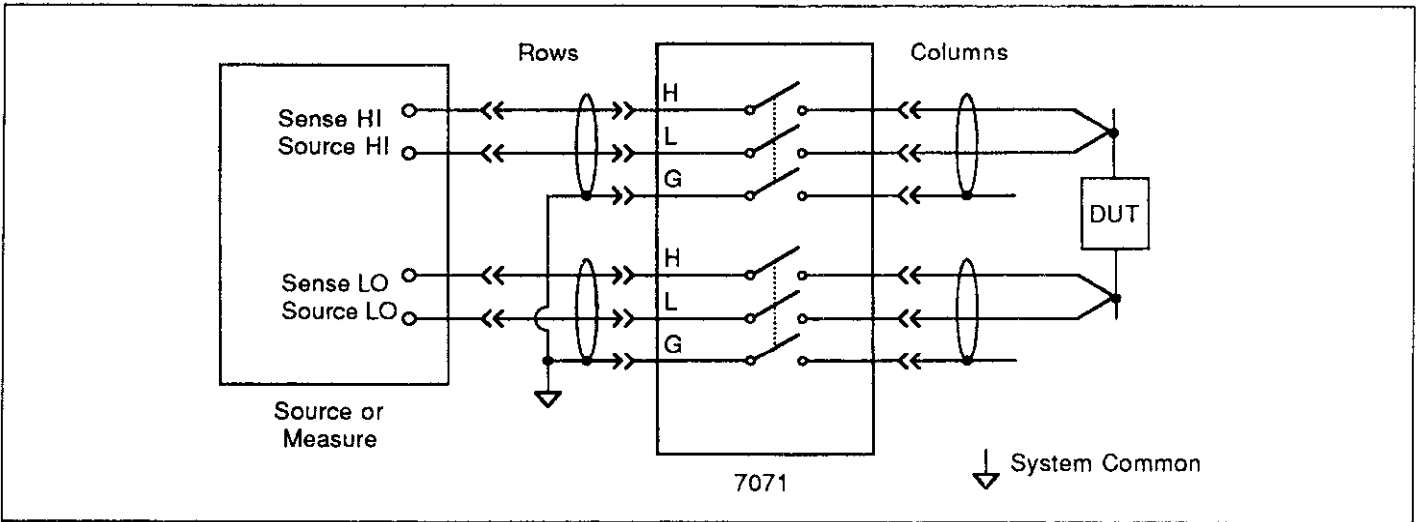

Figure 2-7. Sensing Example (Shielded)
Figure 2-7 shows how the matrix card can be configured to use instruments that have sensing capability. The main advantage of using sensing is to cancel the effects of matrix card path resistance ($<1.5\Omega$) and the resistance of external cabling. Whenever path resistance is a consideration, sensing should be used. In the illustration, matrix card guard is again used as a shield. In a system where a driven guard is required, matrix card guard (G) can be disconnected from circuit LO and connected to the guard potential. However, make sure that the guard is adequately insulated to prevent possible electrical shock, or use quadrax cables using the outer shield as a grounded safety shield.